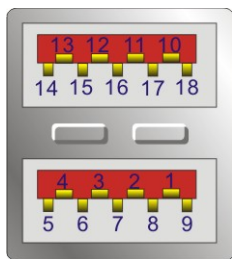

Figure 3-32: USB 3.2 Gen 2 Port Pinouts
- CN Pinouts:** See **Table 3-30** and **Figure 3-32**